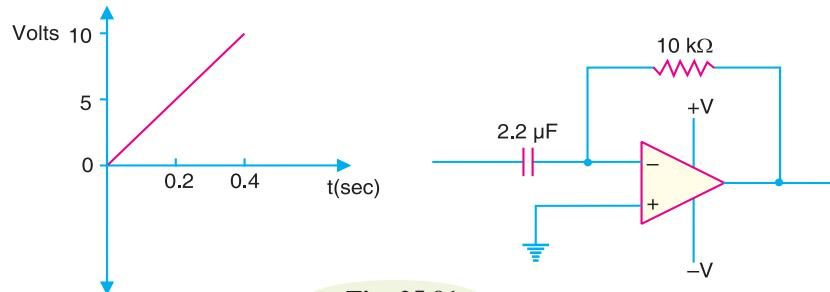

Fig. 25.91
**Example 25.55.** For the differentiator circuit shown in Fig. 25.91, determine the output voltage if the input goes from 0V to 10V in 0.4s. Assume the input voltage changes at constant rate.